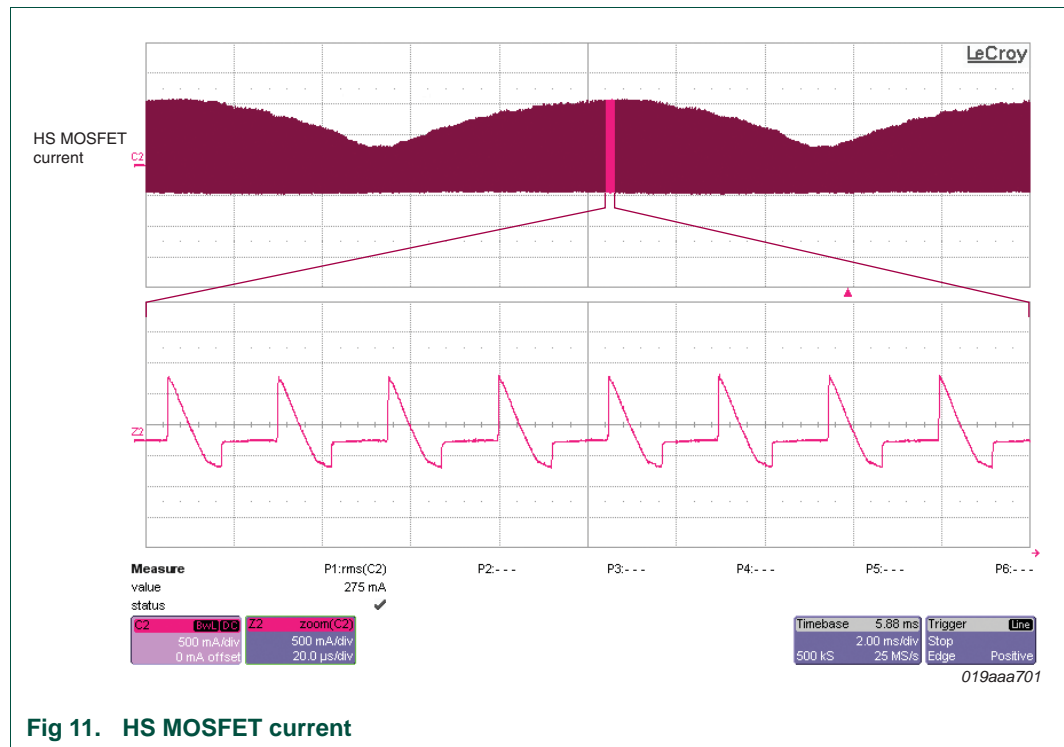
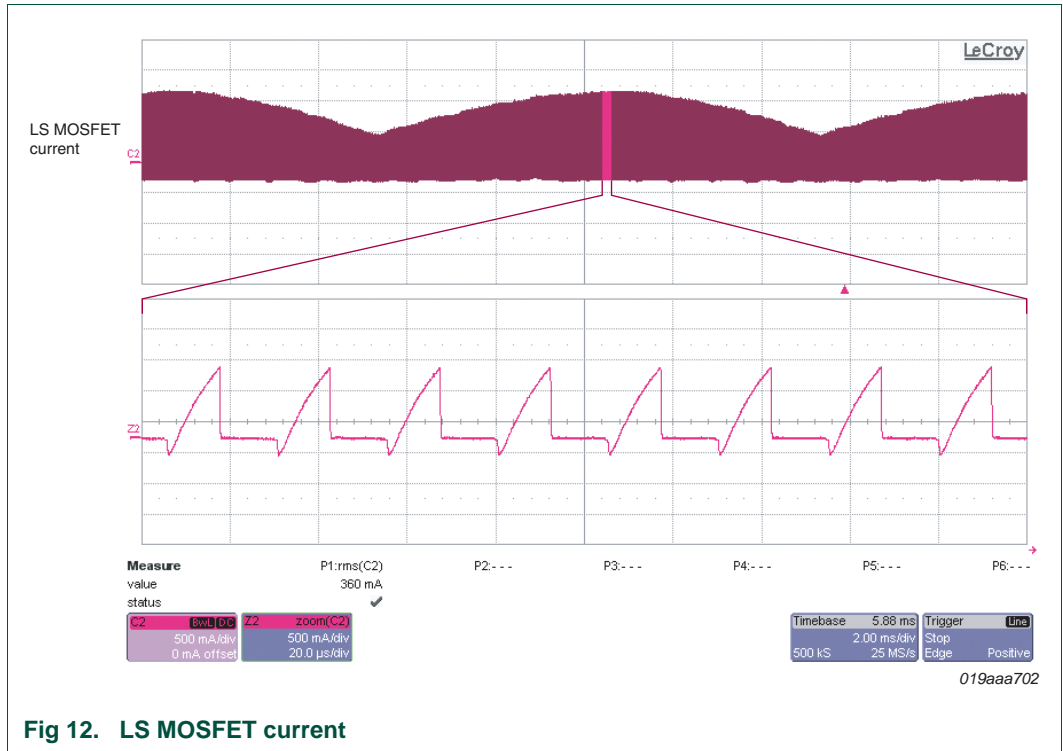

Fig 11. HS MOSFET current
Fig 12. LS MOSFET current
- High-Side (HS) MOSFET ($R_{DS(on)} = 2.3 \Omega$, $I_l = 275 \text{ mA (RMS)}$) is 0.2 W and Low-Side (LS) MOSFET ($R_{DS(on)} = 2.3 \Omega$, $I_l = 360 \text{ mA (RMS)}$) is 0.3 W. The dissipation is 0.5 W for both MOSFETs. The waveforms shown in Figure 11 and Figure 12
Similarly, the current in the LS MOSFET is the sum of the boost inductor current and resonant inductor current when the LS MOSFET is conducting as shown in Figure 11 and Figure 12.